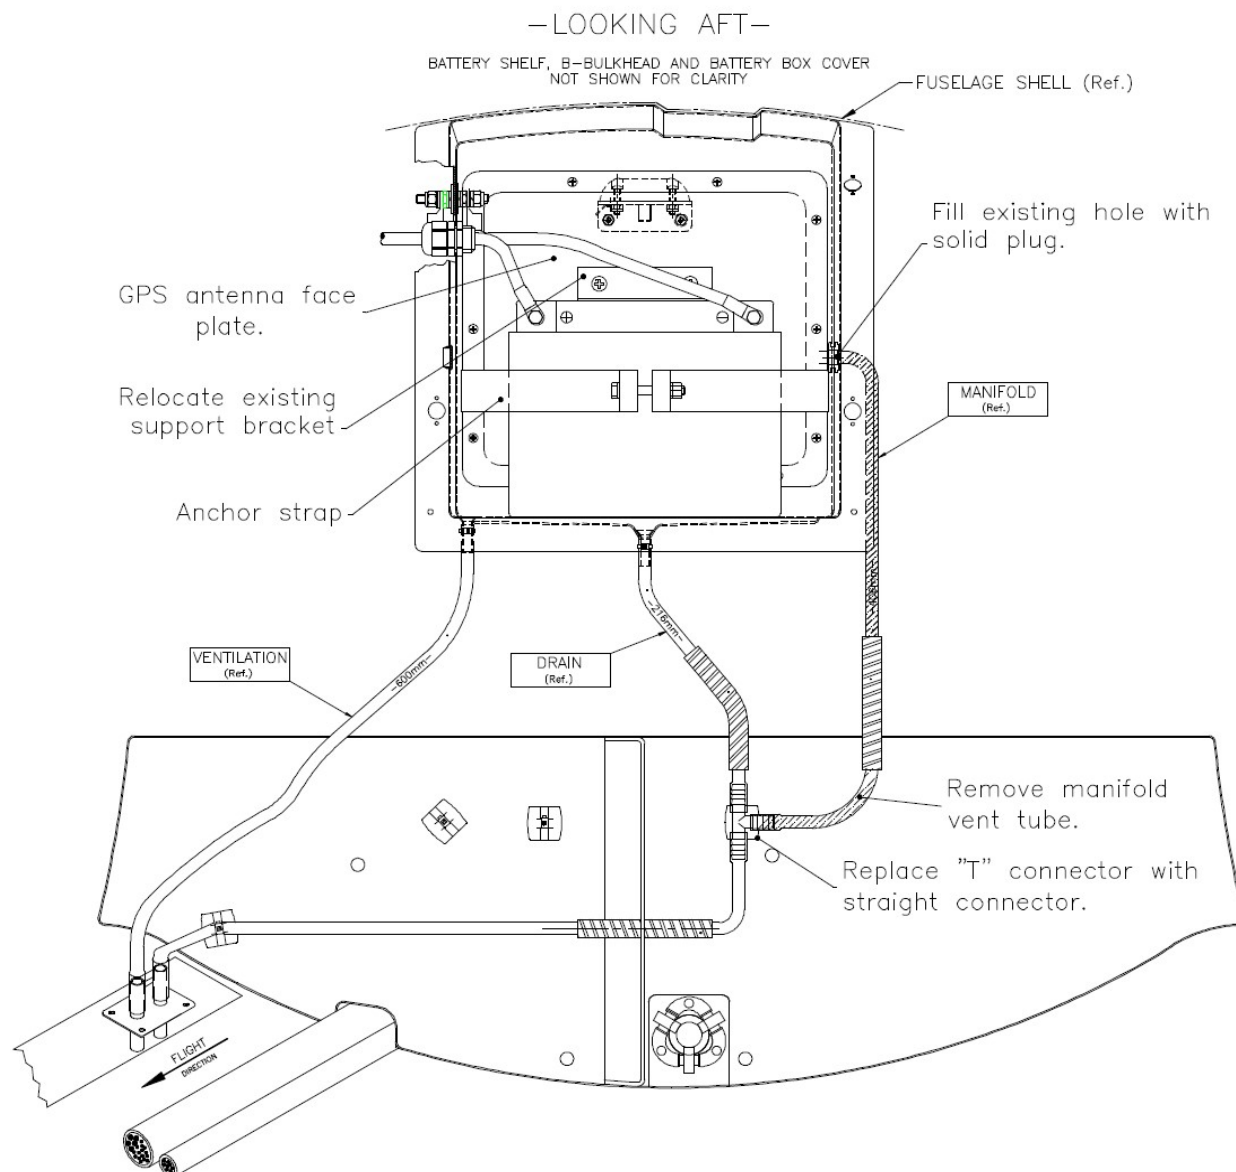

Figure 1
2. Remove the baggage floor. Remove the battery manifold overboard drain tube and replace the "T" tube connector (ty-wrapped to half-ring bulkhead) with the straight connector (item 4). Plug hole in battery compartment with plug (item 5). Refer to Figure 1.